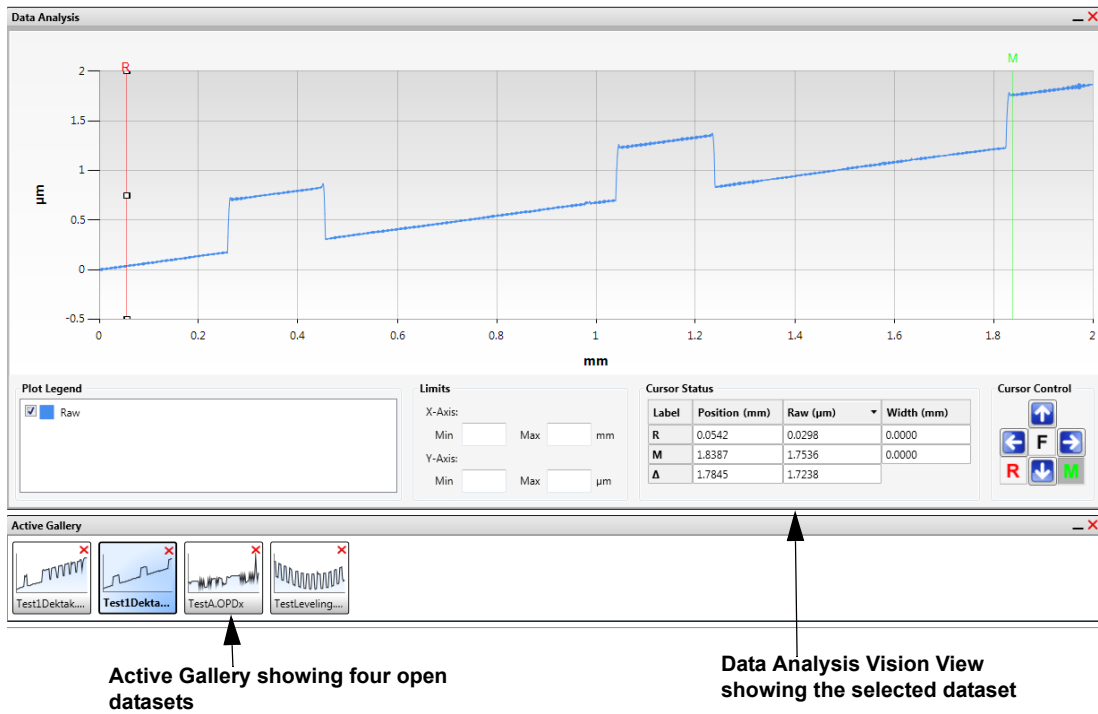

Figure 5-12: Active Gallery with Multiple Datasets
- The Active Gallery Display that simultaneously displays thumbnail views of all active datasets. It appears below the Data Analysis Vision View (see Figure 5-12).